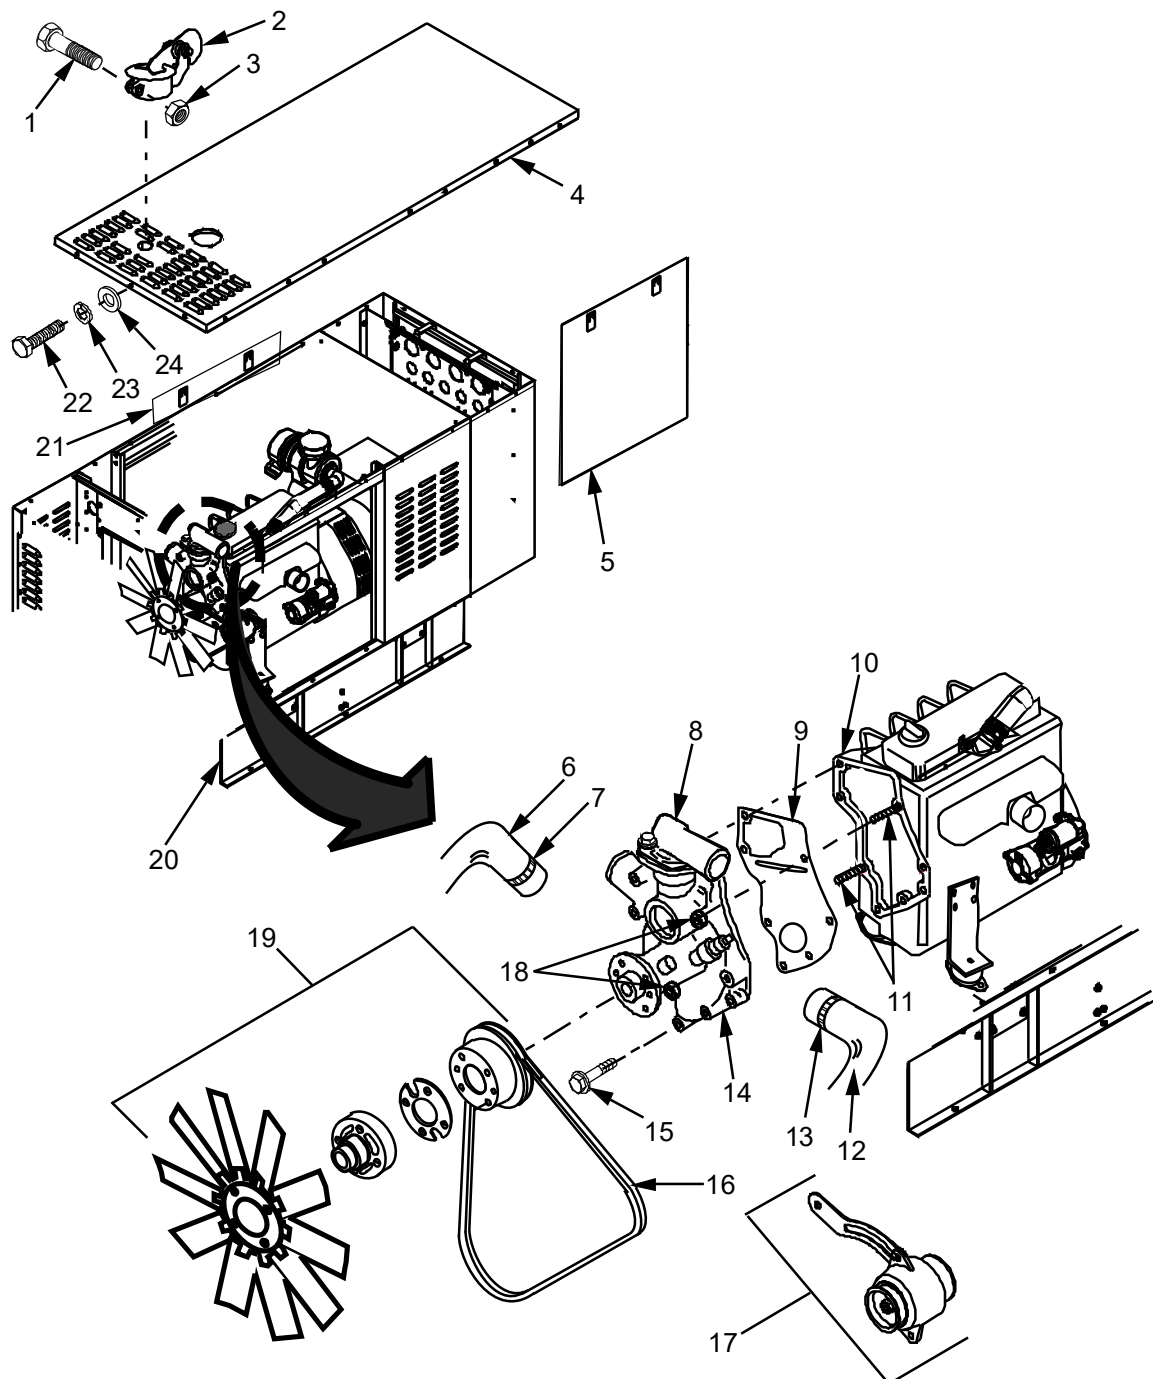

Figure 1. Water Pump - Replace.
Gasket (Figure 1, Item 9) should hold five bolts (Figure 1, Item 15) in position during alignment of the water pump (Figure 1, Item 14).
5. Align water pump (Figure 1, Item 14) to alignment studs (Figure 1, Item 11) on engine block (Figure 1, Item 10) and insert water pump (Figure 1, Item 14) onto alignment studs (Figure 1, Item 11).
6. Tighten five bolts (Figure 1, Item 15) finger tight.
7. Replace two nuts (Figure 1, Item 18) onto alignment studs (Figure 1, Item 11) and finger tighten.
When performing the following step, tighten five bolts (Figure 1, Item 15) and two nuts (Figure 1, Item 18) using a cross pattern to ensure a good seat (i.e. tighten a bolt first on one side, then the opposite side). Work your way around the water pump.
8. Using torque wrench, tighten two nuts (Figure 1, Item 18) and five bolts (Figure 1, Item 15) to 14~21 ft./lb (19~28 n-m/1.9~2.9 kgf-m).
9. Replace cooling fan (Figure 1, Item 19) as described in WP 0073 and fan belt (Figure 1, Item 16) as describe in WP 0073.
10. Replace thermostat housing (Figure 1, Item 8) as described in WP 0057.
11. Replace alternator (Figure 1, Item 17) as described in WP 0071.
Ensure that clamps (Figure 1, Items 7 and 13) are present on coolant hoses (Figure 1, Items 6 and 12) before performing the next step.
12. Replace two coolant hoses (Figure 1, Items 6 and 12) onto water pump (Figure 1, Item 14) and thermostat housing (Figure 1, Item 8) and secure using two clamps (Figure 1, Items 7 and 13).
15. Replace top access panel (Figure 1, Item 4) onto Genset (Figure 1, Item 20) and secure using 20 bolts (Figure 1, Item 22), new lock washers (Figure 1, Item 23) and flat washers (Figure 1, Item 24).
16. Replace exhaust pipe cap (Figure 1, Item 2) and tighten nut (Figure 1, Item 3) and bolt (Figure 1, Item 1) that secure exhaust pipe cap (Figure 1, Item 2).
18. Replace front and rear access panels (Figure 1, Items 5 and 21) on Genset (Figure 1, Item 20).
20. Start Genset (Figure 1, Items 1) in accordance with WP 0005, Genset Start Procedure.